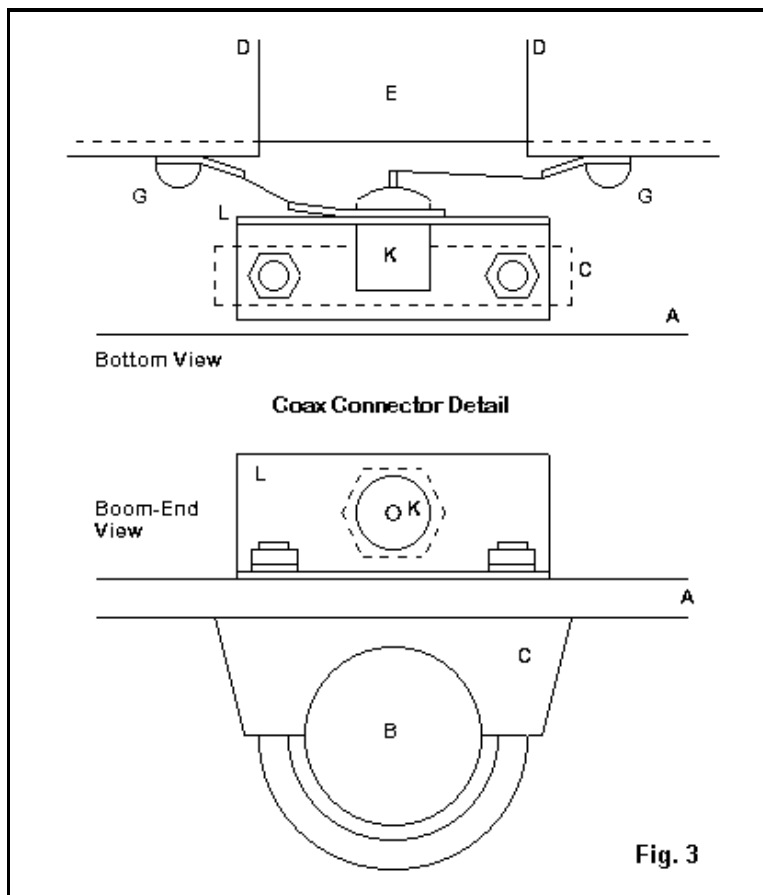

**Fig. 2**
The most commonly used matching network for home-built Yagis is the gamma. As **Fig. 2** shows, it consists of a line in parallel with part of the element and connected to the element. We add a series capacitor between the coax center conductor and the gamma line. By adjusting the line diameter, spacing from the element, length, and the capacitor value, we can arrive at a good match.
The J-pole pattern is omni-directional, with only a very small offset created by the double-leg matching section. **Fig. 2** shows a typical azimuth pattern, along with the very small offset in the direction of the open-end leg of the matching section. The offset cannot be detected in operation.
Our fastener will be the hitch-pin clip--also known as the hairpin cotter pin and some other names. For clarity, **Fig. 2** shows the shape of the clip.
**Fig. 2** shows the construction of high-quality junctions of the elements to the boom (B). Item A is a nonconductive plate (polycarbonate), about 9" by 6" by 1/4". Do not use metal plates, since the dimensions shown are based on well-insulated and isolated elements, relative to the boom. The boom attaches to the plate with U-bolts equipped with saddles to reduce tube compression. The U-bolts and all other hardware, including washers and lock washers should be stainless steel. The elements are secured to the plate with similar U-bolts (F), sized to the element diameter.
**Fig. 2** shows representative azimuth patterns for the antenna at the band edges and at mid-band. The overall area within the rear lobe does not change much across the band, although the perimeter does change shape. The forward lobe is relative constant, with the emergence of very slight bulges at the upper end of the band. If we could have extended the operating range any further, we would find that these bulges would develop into small secondary forward lobes. If we had added more elements for higher gain, the secondary forward lobes would have become a permanent feature of all the patterns, as they are in most VHF Yagi design of 8 or more elements.